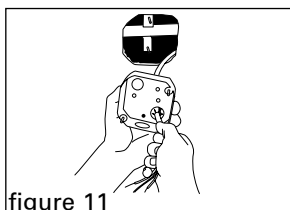

figure 11
8. **Make sure electrical power is off!** Pull the wires down through the hole in the sheetrock and push them through the connector from the top of the electrical box (figure 11).